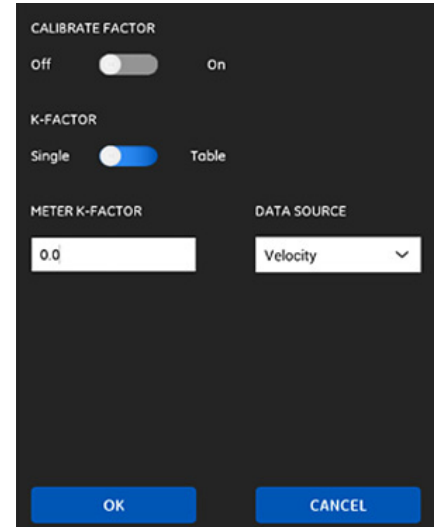

Figure 89: The calibrate factor menu
- Click on the *meter factor* button to open the menu shown in Figure 89 below.